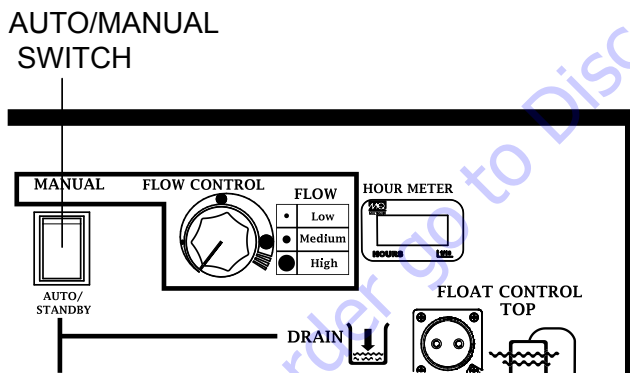

Figure 10. Operation Mode Selection
2. Select the mode of operation that you require by setting the Auto/Manual switch to either **AUTO/STANDBY** or **MANUAL** mode (Figure 10).
- Turn the AUTO/MANUAL switch on control panel to the **AUTO/STANDBY** position (Figure 10).